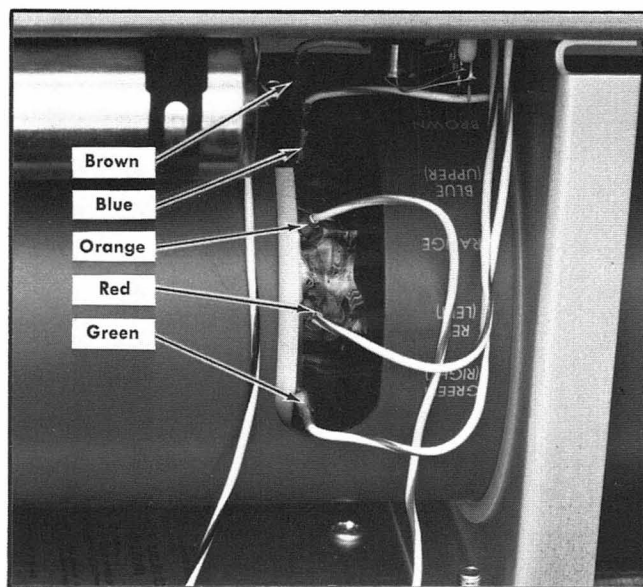

Fig. 4-6. CRT neck pins and connecting wire color codes.
**Cathode-Ray Tube Removal.** Remove the 5 CRT deflection plate pin connectors from the deflection plate pins. See Fig. 4-6 for location and wire colors. Do not bend the CRT deflection plate pins.
Replace the deflection plate pin connectors. Fig. 4-6 shows location and lead colors. Do not Bend deflection plate pins.